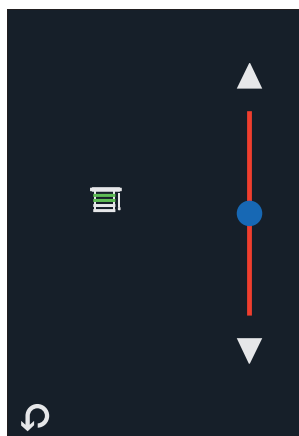

Fig. 10a 'Level'
- translatory movement "Level" (Fig.10a)